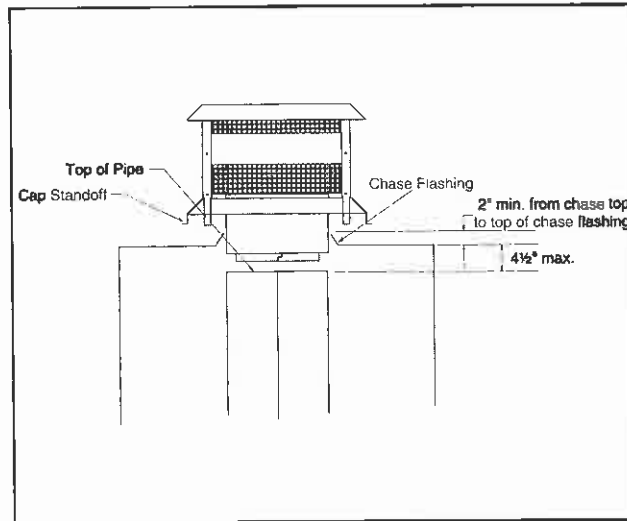

Figure 25 - Installing an ST1175 Square Termination Cap
- c. For installations utilizing an ST1175 square termination cap the last chimney section must not be more than 4½" below the chase top. See Figure 25.